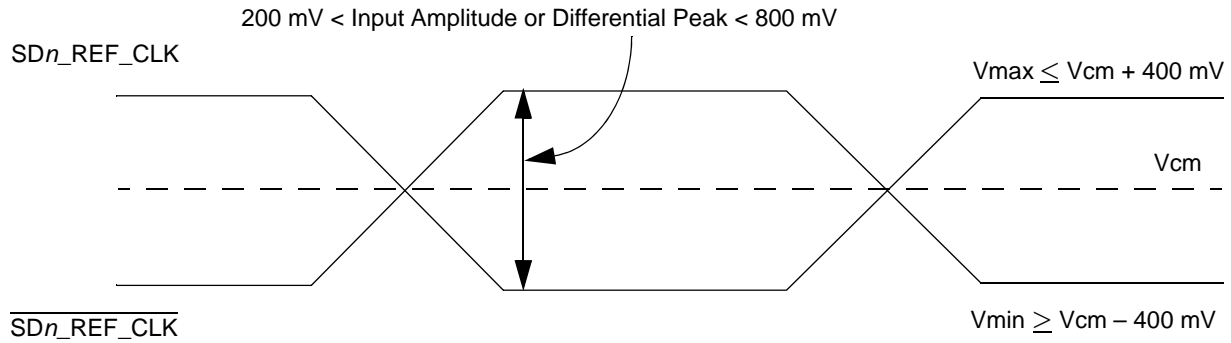

Figure 46. Differential Reference Clock Input DC Requirements (External AC-Coupled)
- For **external AC-coupled** connection, there is no common mode voltage requirement for the clock driver. Because the external AC-coupling capacitor blocks the DC level, the clock driver and the SerDes reference clock receiver operate in different command mode voltages. The SerDes reference clock receiver in this connection scheme has its common mode voltage set to SGND_SRDS n . Each signal wire of the differential inputs is allowed to swing below and above the command mode voltage (SGND_SRDS n). Figure 46 shows the SerDes reference clock input requirement for AC-coupled connection scheme.